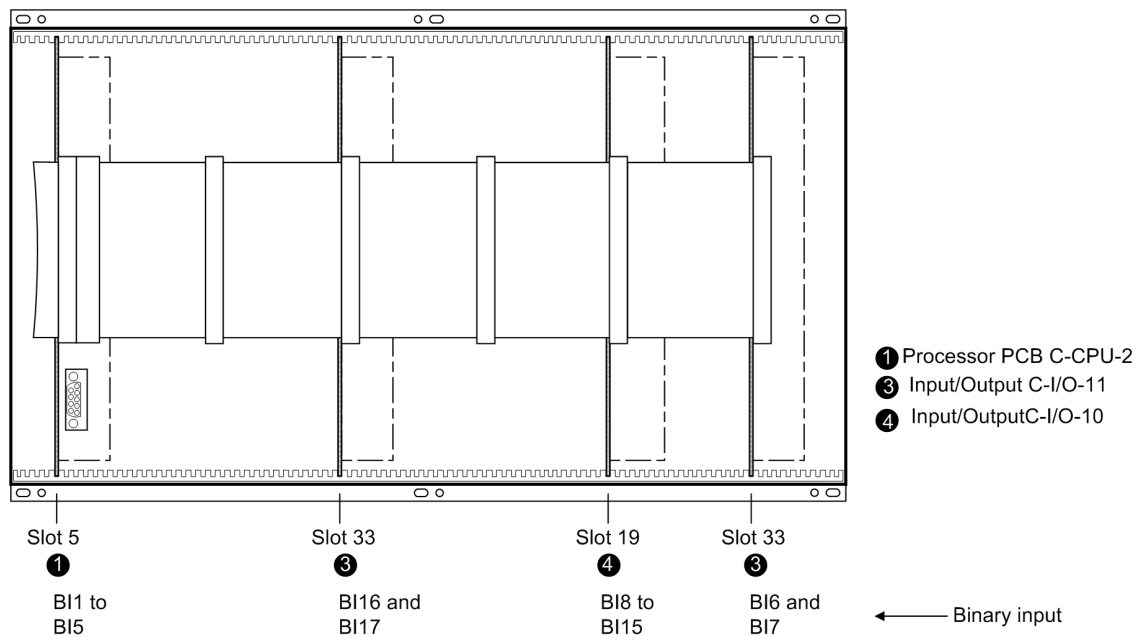

Figure 3-2 Front view of a 7VU683 (housing size 1/1) after removal of the front cover (simplified and scaled down)
- Disconnect the ribbon cables between the C-CPU-2 board (1) and the I/O boards (2) to (4), depending on the variant ordered).
- Check the jumpers in accordance with Figures 3-2 to 3-9 and the following information, and as the case may be change or remove them.